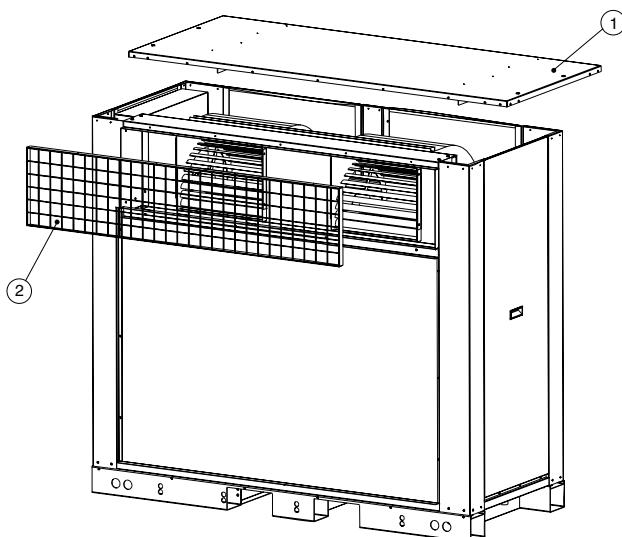

Fig. 1
- 1.- Remove and discard the top panel (1) and the grid (2) (Fig. 1).